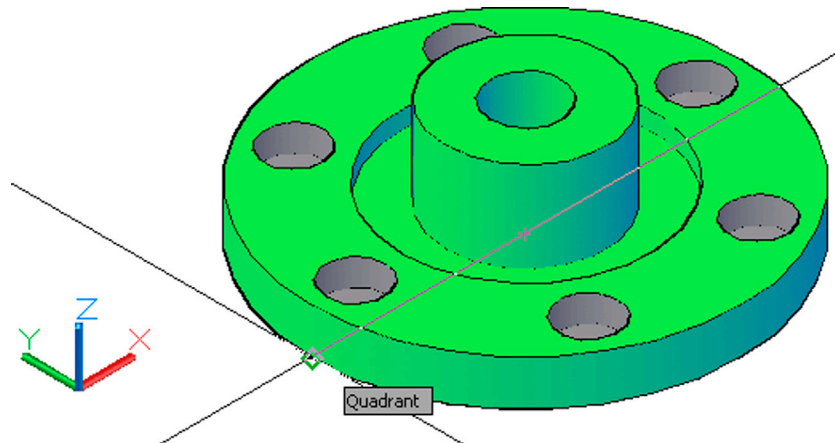

FIGURE 27.3 Select anchor point for plane slice.
Step 3. We use the planes as a slicer. If your UCS is in the standard (World) configuration (as seen in Fig. 27.3), then select ZX as the plane.
Step 4. Here, you just need to pick a point where you want the plane to start. It is infinite in both planar directions, so you are just locating an anchor point. Using OSNAPS, select the lower left quadrant (also seen in Fig. 27.3).